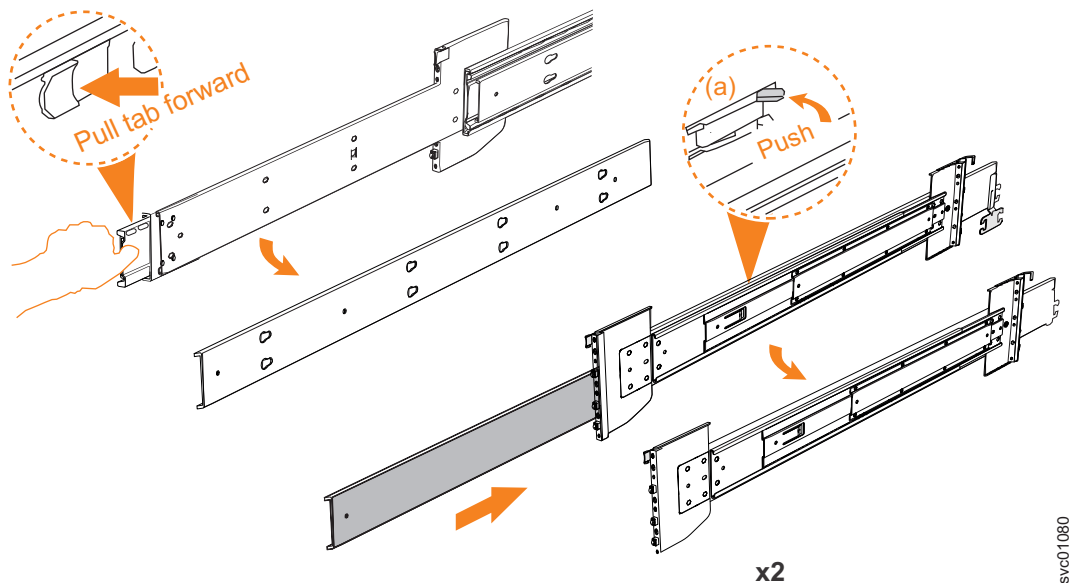

Figure 35. Detaching the inner rail section
3. Remove the inner member of the rail. Push the tab (**a**) and slide the middle rail member back, as shown in Figure 35.